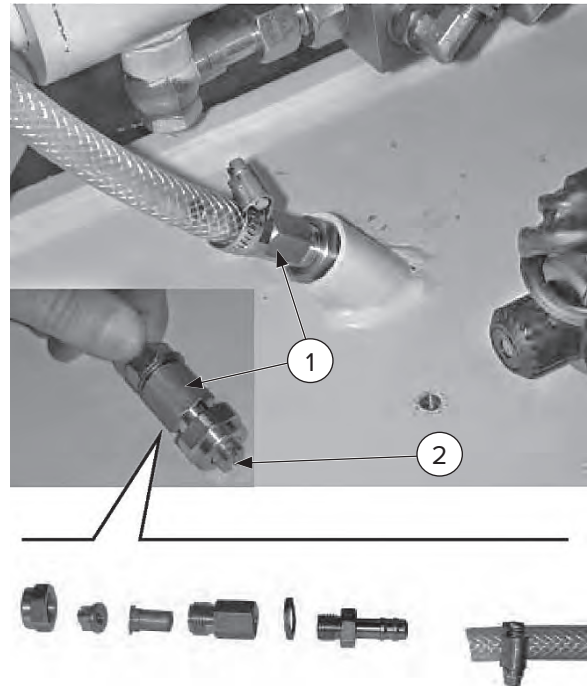

Figure 22
1. Check the water nozzles [Figure 22, Item 1] located on the equipment and clean them if necessary.